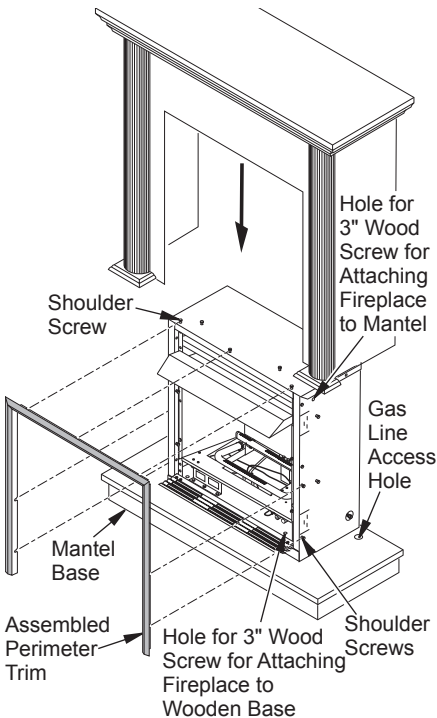

Figure 12 - Attaching Perimeter Trim to Fireplace
3. Place fireplace on wood base (see Figure 12).
- Place mantel around fireplace on base (see Figure 12).
- Firmly snap perimeter trim kit on shoulder screws. Shoulder screws are located on fireplace cabinet (see Figure 12).
- Use two 3" wood screws provided and attach base of fireplace to wooden mantel base (see Figure 12).
- Cut an access hole in base to run flexible gas line to fireplace (see Figure 12). Make sure to locate access hole so mantel will cover it when installed. **Note:** You can secure base to floor using wood screws. Countersink screw heads and putty over.
- Place perimeter trim kit on the shoulder screws located on the side and top of the fireplace. Firmly snap trim over shoulder screws on fireplace (see Figure 12).
- Adjust assembly to remove any gaps. Attach remaining two 3" wood screws from hardware pack through openings inside of fireplace sides into the mantel. The openings are located at top behind the area for top louver (see Figure 12).